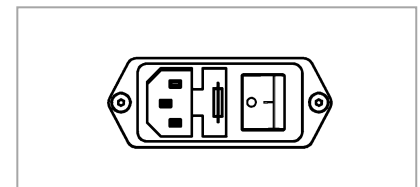

Figure 7.1
1. Set the main switch to position **I**. See Figure 7.1.
1. Set the main switch to position **0**. See Figure 7.1.